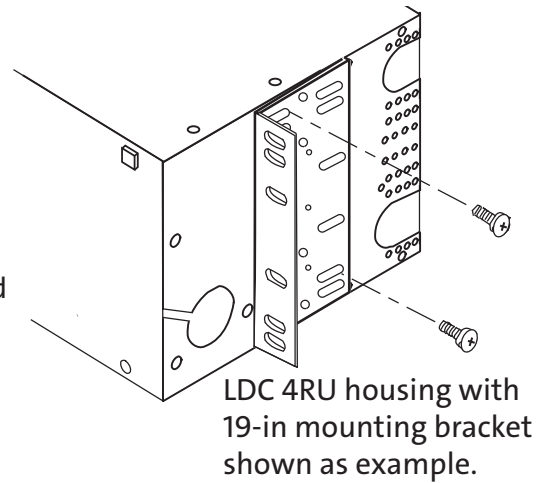

Figure 10
Step 1: If you are installing factory-stubbed housings, attach the mounting brackets for a 19-inch rack configuration (Figure 10) and proceed to Section 12 Housing Installation.